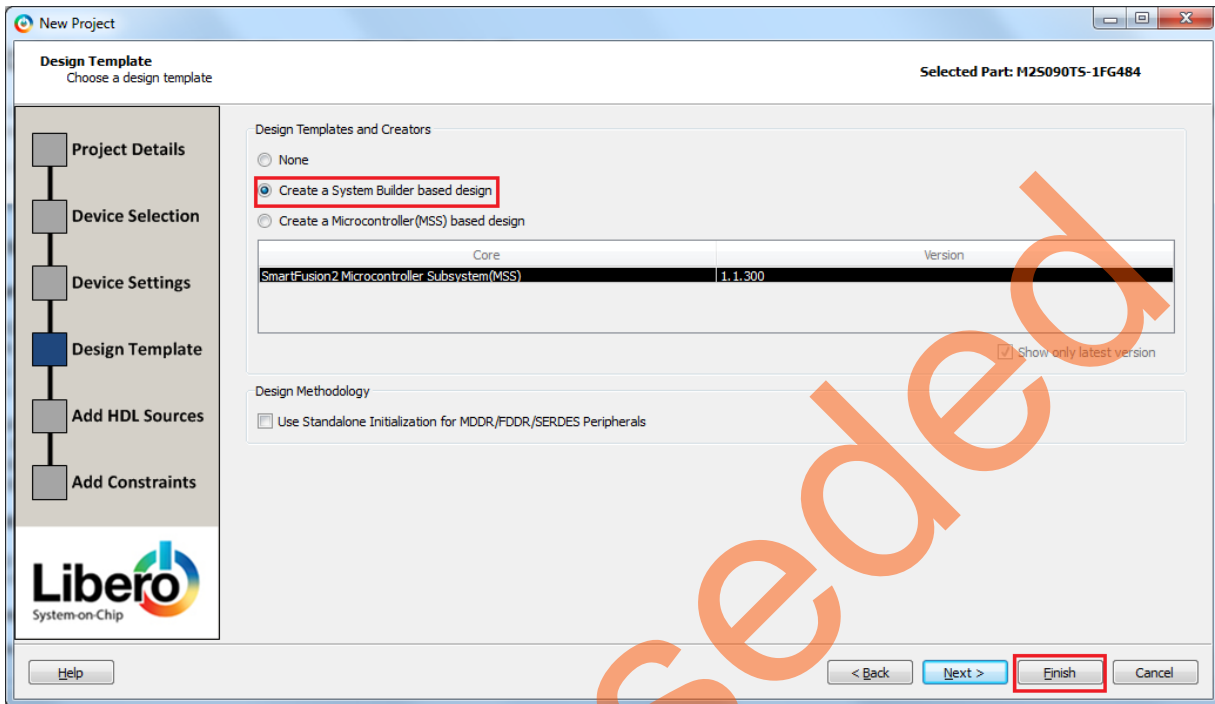

Figure 5 • Design Template Window
6. Click **Next**. This opens **Design Template** page as shown in Figure 5, Under Design Templates and Creators, select **Create a System Builder based design**.